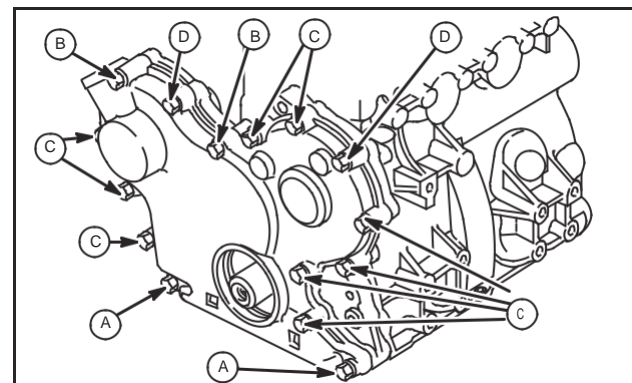

Fig. 20 – Installing Timing Gear Cover
7. Install timing gear cover with new gasket. Note position, length and number of screws as shown, Fig. 20.